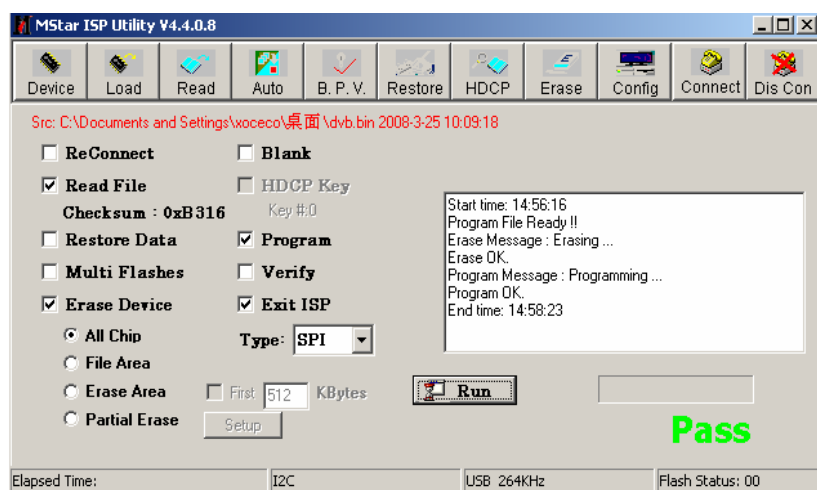

Fig. 19 Successful burning process
- g) A prompt “**Pass**” will display if burning process is successful, please refer to Fig. 19;